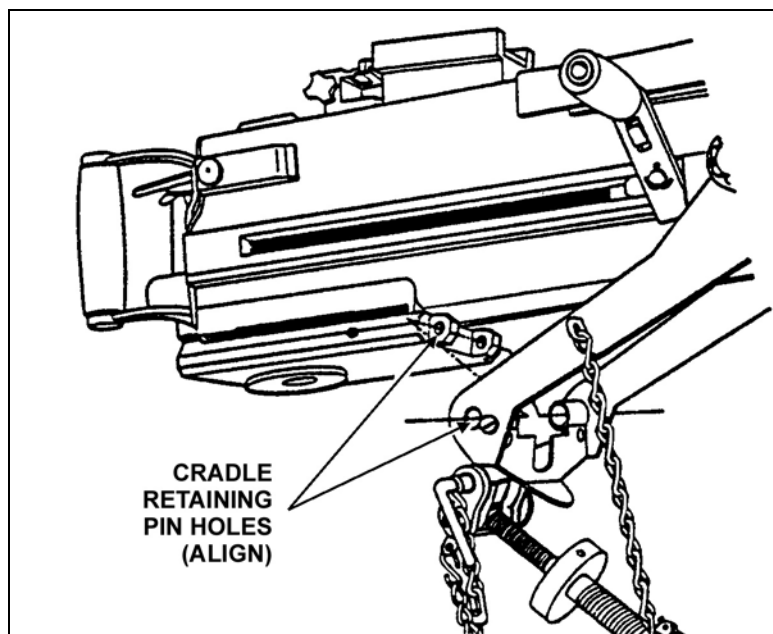
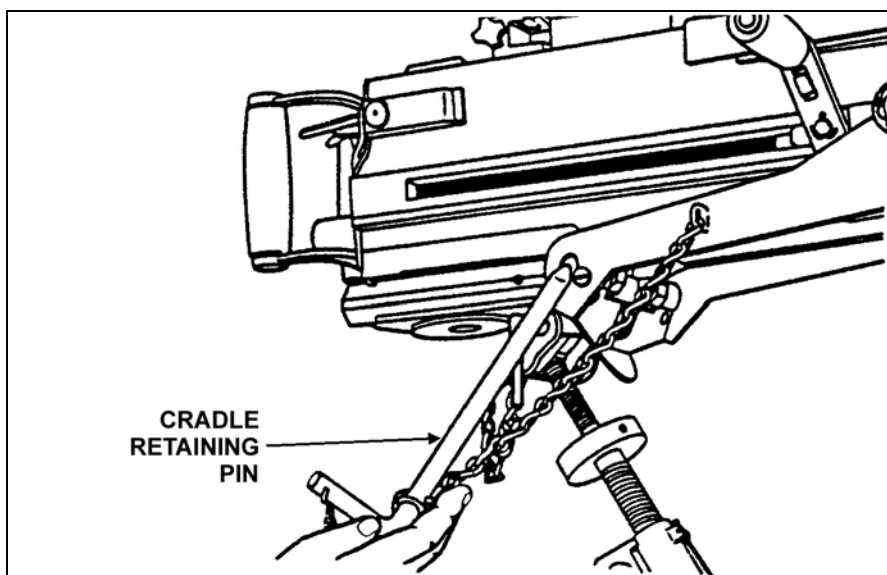

Figure 3-9. Alignment of the sear assembly and pinholes.
Figure 3-10. Insertion of the cradle retaining pin.
(3) Align the sear mounting holes with the gun cradle mounting holes (Figure 3-9). Secure the rear of the receiver by inserting the retaining pin through the cradle and sear assembly and rotate it until it locks in place (Figure 3-10). If a safety clip is attached, use it to secure the retaining pin.